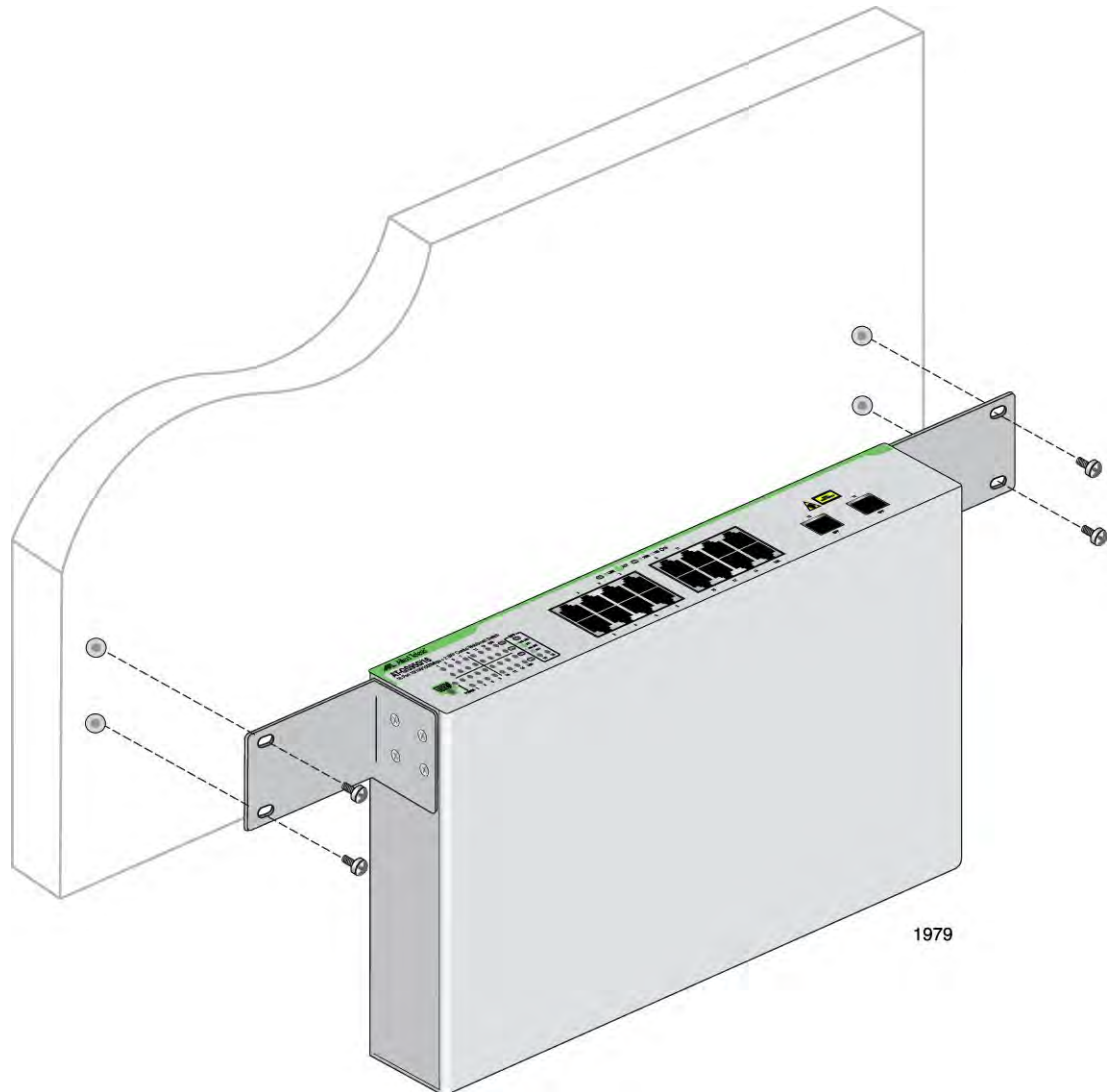

Figure 31. Securing the Switch to the Wall
6. While another person holds the switch at the wall location, secure it to the wall using the four wall mounting screws. See Figure 31.